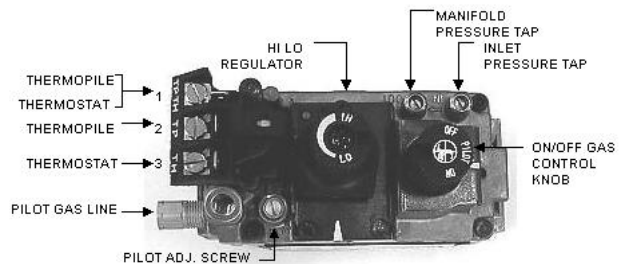

FIGURE 8: Gas Valve
5. Turn Gas Cock Dial Counterclockwise to "PILOT" position [See FIGURE 8].
12. To reduce heat output, turn Hi/Lo Knob counterclockwise to desired temperature [See FIGURE 8].
2. For complete shutdown turn Rocker Switch and Gas Cock Dial [FIGURE 8] to "OFF".